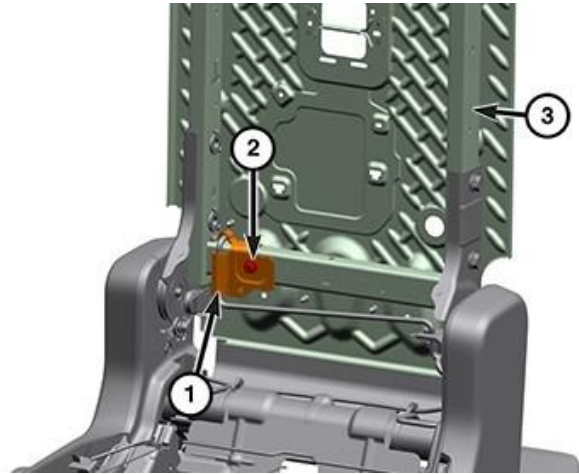

Figure 84 – Seat Back Torsion Spring
29. Remove the bolt (2) and retainer (1) securing the seat back torsion spring (Figure 84).
48. Install the retainer (1) and bolt (2) securing the seat back torsion spring. Tighten the bolt to 10 N·m (89 in. lbs.) (Figure 84).